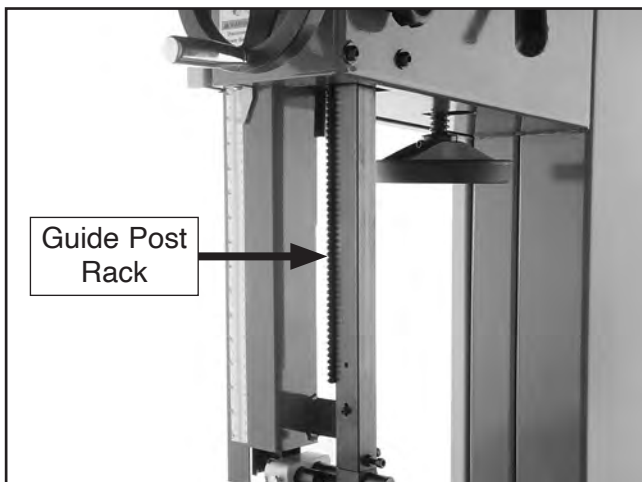

Figure 70. Example of rack lubrication location.
3. Wipe off any existing grease and sawdust buildup on the rack (see **Figure 70**).